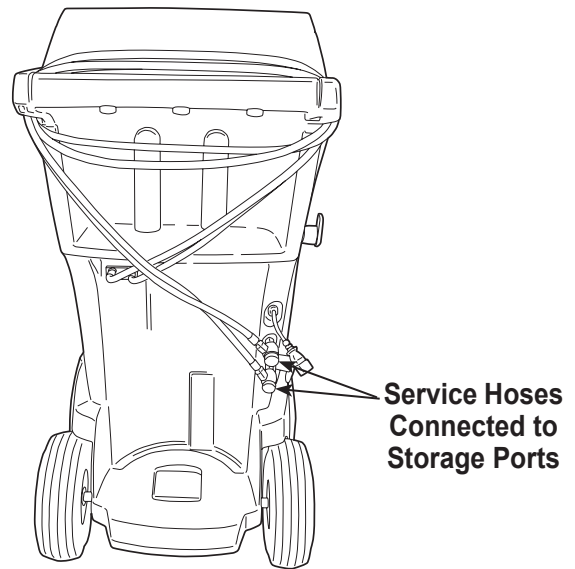

Figure 2
2. When prompted, connect the service hoses from the machine to their storage ports as shown in Figure 2. Select **▶▶** to continue.